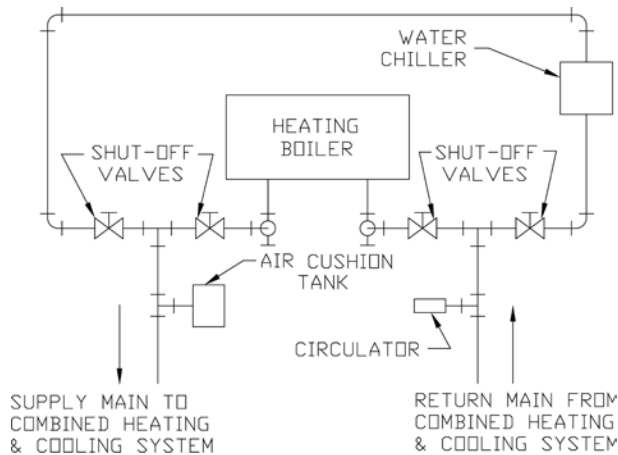

Figure 13: Recommended Piping for Combination Heating & Cooling (Refrigeration) Systems
- d. If this boiler is used in connection with refrigeration systems, the boiler must be installed so that the chilled medium is piped in parallel with the heating boiler using appropriate valves to prevent the chilled medium from entering the boiler, see Figure 13. Also, consult Residential Hydronic Heating Installation and Design I=B=R Guide.